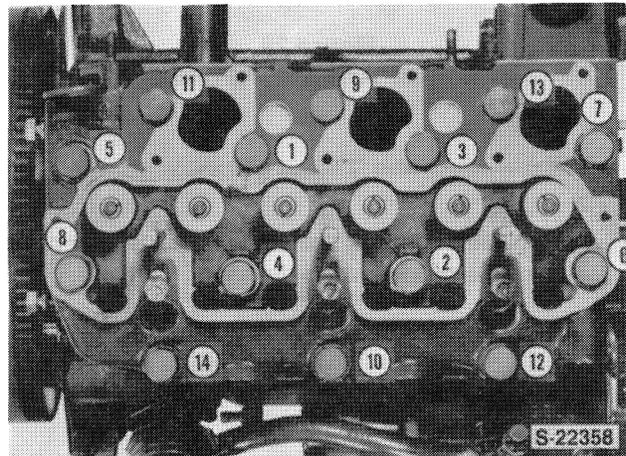

Figure 33
4. Tighten the cylinder head bolts in steps in the sequence as shown, Figure 33. Tighten to the final torque specification: